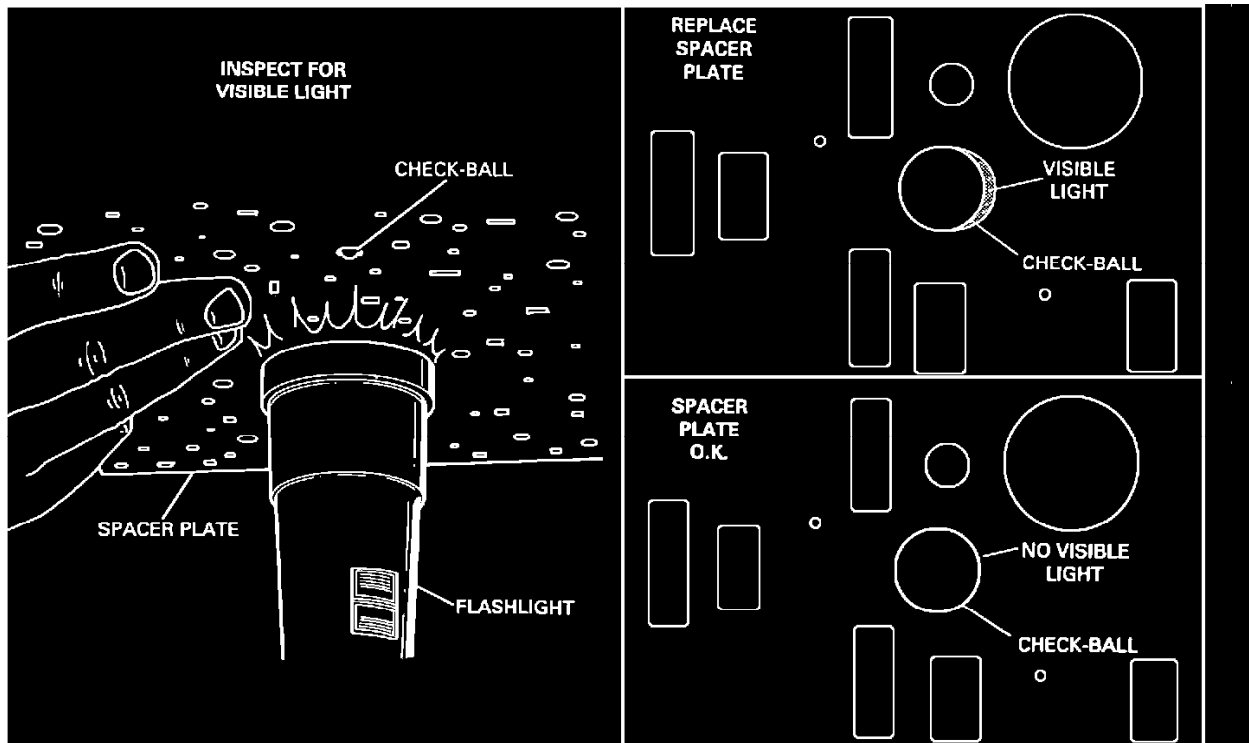

Figure 2
2. To verify that the spacer plate is peening evenly and the ball is sealing correctly, seat the check-ball on the spacer plate. Shine a beam of light on the opposite side and inspect for light between the spacer plate and check-ball (see Figure 2). No trace of light should be present. If light can be seen, a proper seal does not exist, and the spacer plate must be replaced.